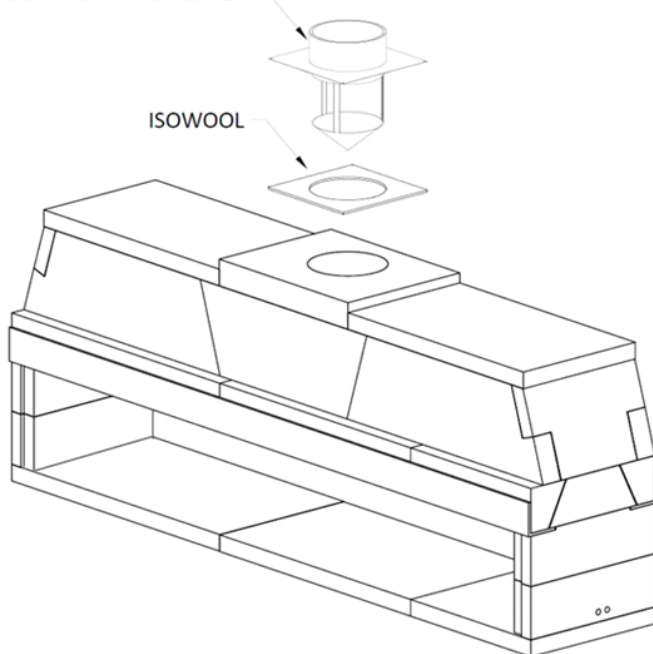
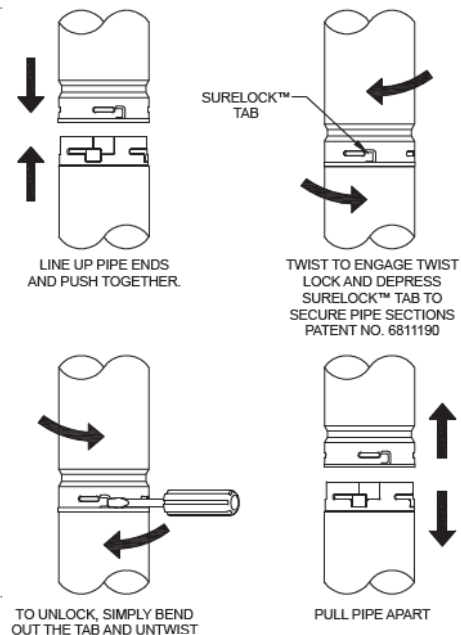

FIGURE 25
FIGURE 26
- 2) Center the Isowool blanket over Isokern Top Plate’s outlet and trace the outlet’s outline with a pen or marker. Cut a hole in the blanket along this outline to match the hole in the Isokern top plate. Center the cut Isowool blanket over the Isokern Top Plate flue opening, then center Anchor Plate over the Isowool blanket (**Figure 25**).
- 3) Secure the Anchor Plate with four (4) masonry anchors.
- 4) Starting at the anchor plate, attach the first section of B-Vent Pipe. A minimum of 12” of straight pipe will be required before any offset. The B-Vent sections and components use the positive twist-lock for interconnections. Align the ends of the vent, push together then twist section to lock in place (**Figure 26**).